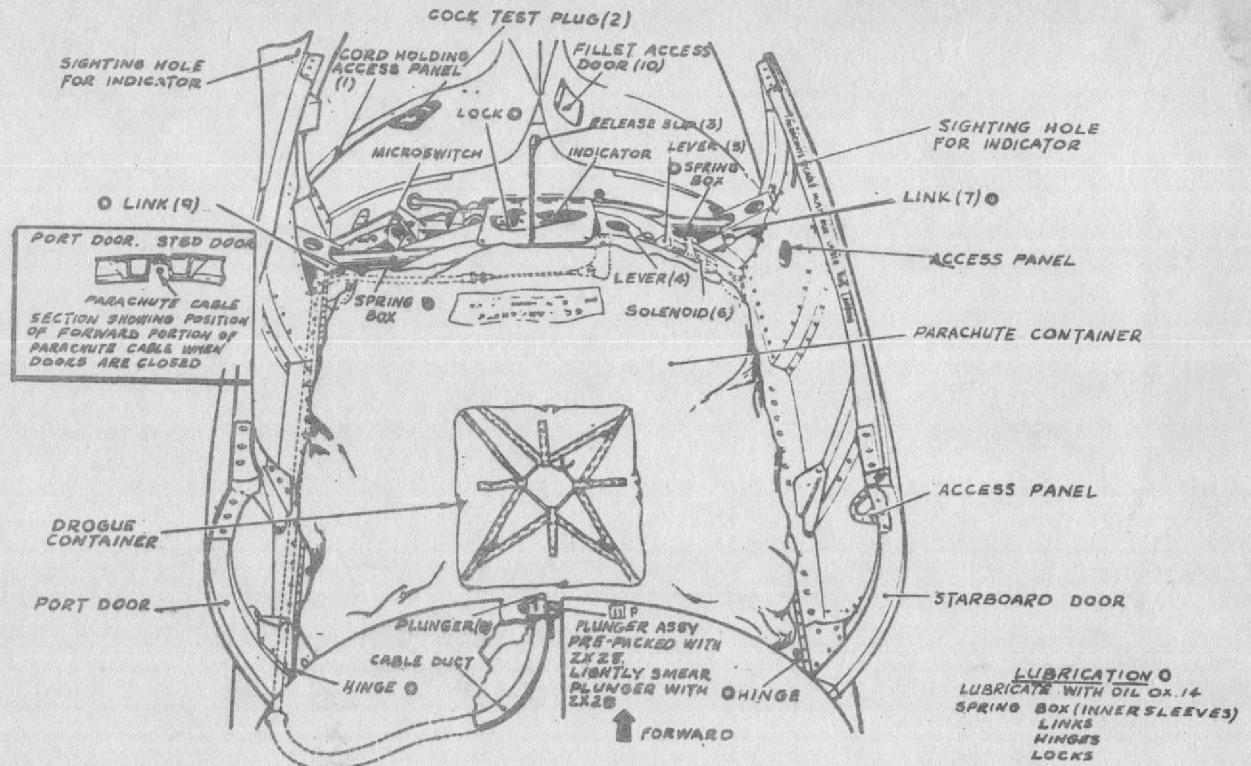

FIG 1 BRAKING PARACHUTE
N.B. Refer to Fig 1 as necessary during this replenishment.
3.2 Parachute cable. Ensure routed correctly. (Fig 1). "